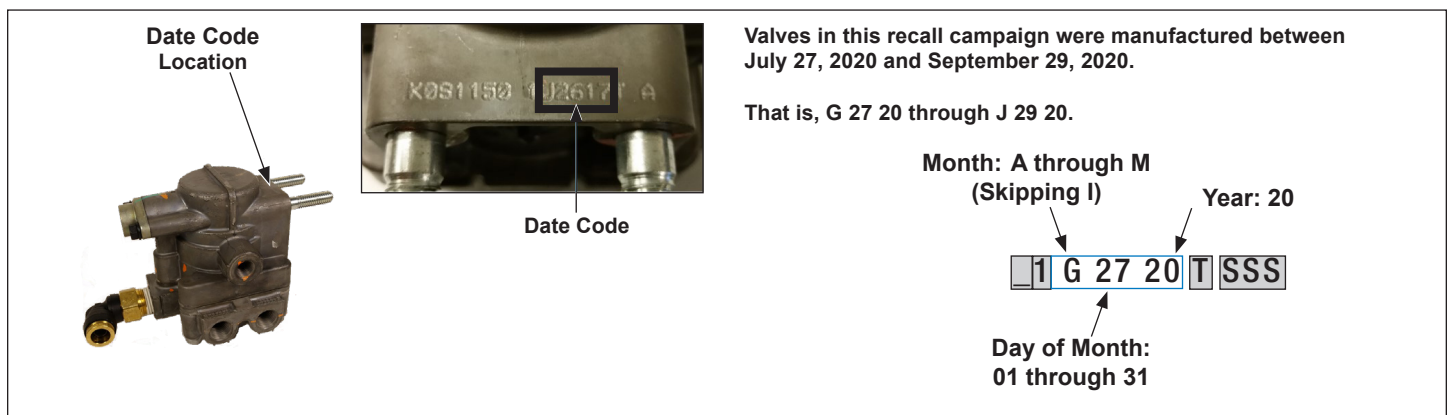

Figure 3 - SR-7 Spring Brake Modulating Valve Date Code Interpretation
1. See Figure 3. A potentially defective SC-3 single check valve that was purchased as part of an assembly with an SR-7 spring brake modulating valve can be identified by the date code on the SR-7 spring brake modulating valve. If the SR-7 spring brake modulating valve has a date code that is any date between, and inclusive of, 7/27/20 and 9/29/20, the SC-3 single check valve falls within the recall parameters. The SC-3 single check valve needs to be replaced.
See Figure 3. A date code is stamped (not cast) on the SR-7 spring brake modulating valve body housing. Locate the date code – removing the paint coating if necessary – to read the code. Disregard the codes shown in gray in Figure 3. The portion of the date code that determines the date of manufacture is highlighted and can be interpreted as follows: